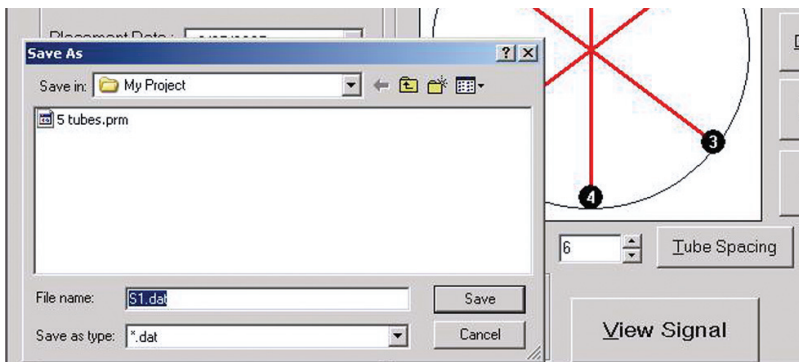

Figure 8: Filename Confirmation
12. After completing the necessary information, click **View Signal** on to proceed to the data collection procedure. The following screen in Figure 8 should appear to confirm the filename. **It is highly recommended to use the input shaft name as a filename.** Then, click **Save** to save the shaft information and proceed to the next screen. Note that if the name entered is the same as a previously saved file name, the user will be prompted to overwrite the data.